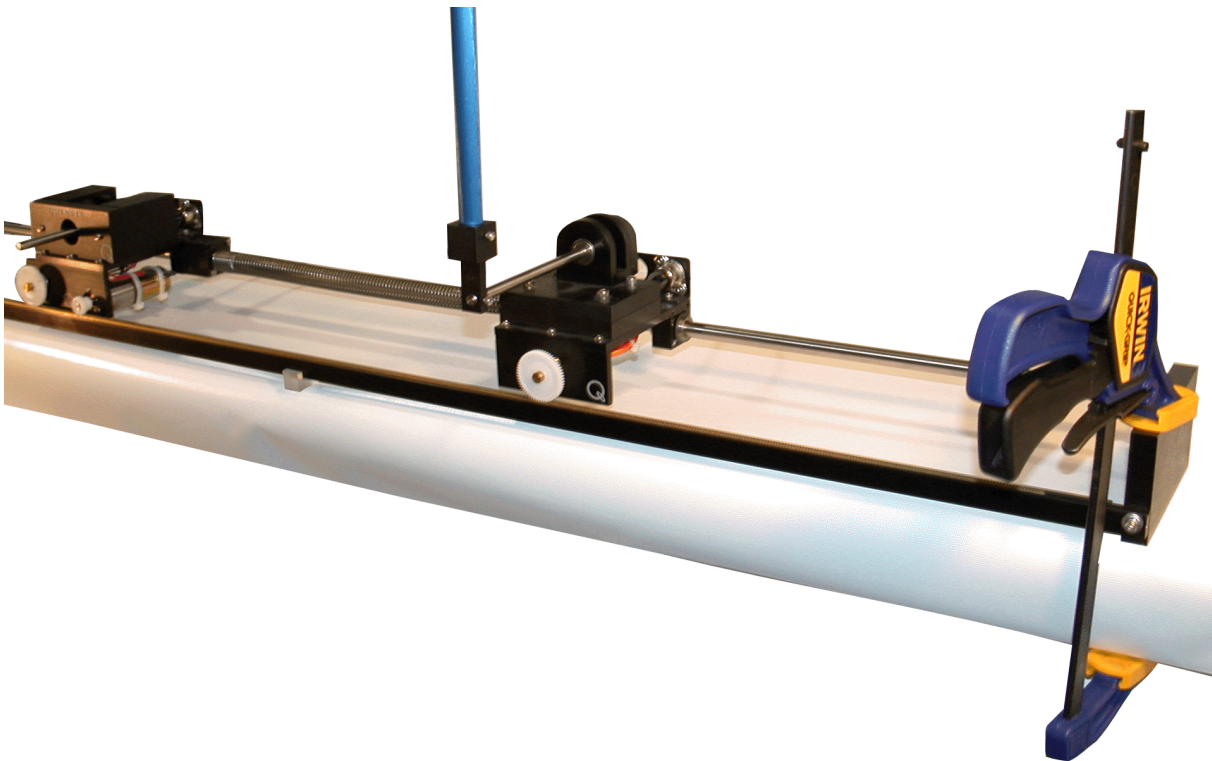

Figure 4.1: Default Configuration of the LFJC-PEN-E Plant
Figure 4.1 illustrates the mounting and assembly, in the default configuration, of the LFJC- PEN-E modules with an IP02 cart-and-track system.
As shown in Figure 4.1, the **the default configuration consists of a cart with its additional weight mounted atop of it** (the extra mass for the motorized cart reduces slippage). Besides, the two load weights provided for the LFJC-PEN-E should also be mounted on the output cart and the long (i.e., 24-inch) pendulum, pointing downwards, attached to it. Additionally, the system should be rigidly clamped down to a table or workbench.
8. You should also clamp the IP02 track down to the table using its end plates, as pictured in Figure 4.1.